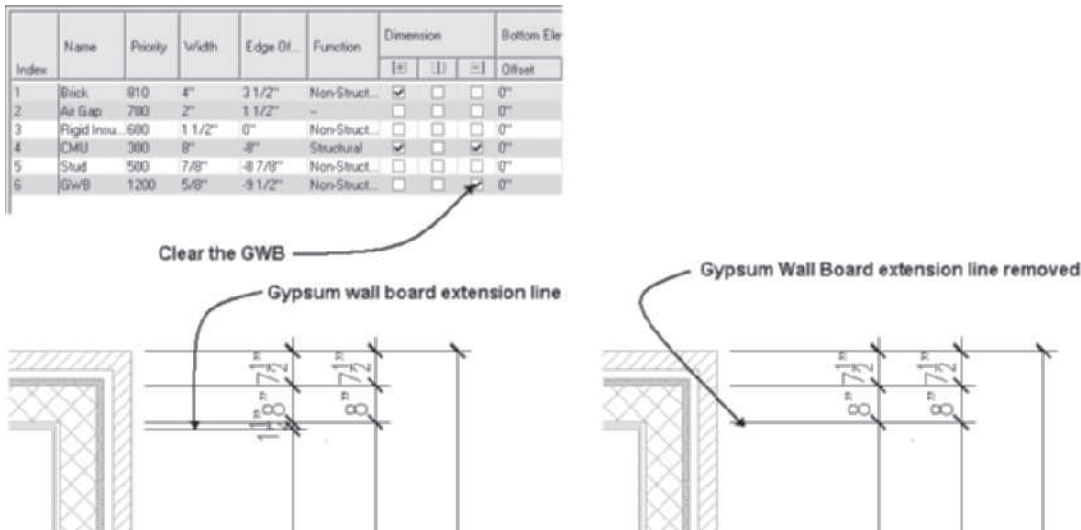

FIGURE 11.25 Removing GWB from the dimension definition in the wall style
9. Since the **Wall Width** is specified as **By Style** you can control the content of the dimension in the wall style. Select the exterior wall, right-click, and choose **Edit Wall Style**. Choose the **Components** tab and clear the **GWB** checkbox as shown in Figure 11.25. Click **OK** to dismiss all dialog boxes.